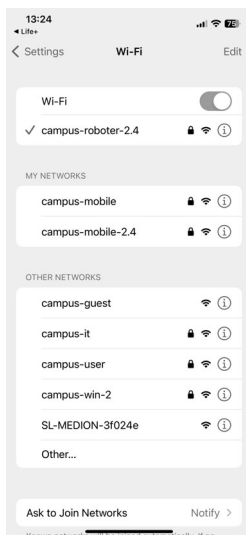

Fig. 8
- ▶ Now select the network of the robot vacuum and mop on your smartphone/tablet under **Available networks** (Fig. 8).